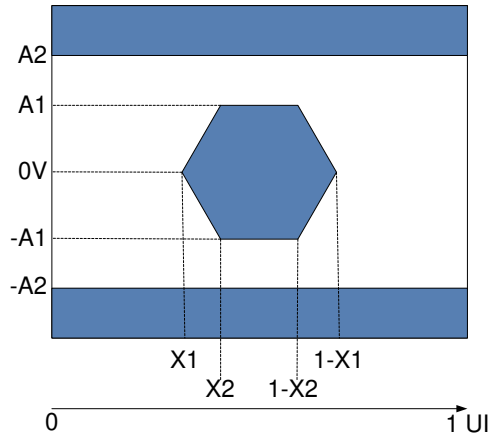

Figure 5-11. HSSI Eye Characteristics
(1) All power supply connections are required to operate the DMD: V_{DD}, V_{DDA}, V_{OFFSET}, V_{BIAS}, and V_{RESET}. All V_{SS} connections are required to operate the DMD.
(2) All voltage values are with respect to the ground pins (V_{SS}).
(3) To prevent excess current, the supply voltage delta |V_{DDA} – V_{DD}| must be less than the specified limit.
(4) To prevent excess current, the supply voltage delta |V_{BIAS} – V_{OFFSET}| must be less than the specified limit.
(5) Supply power dissipation based on three global resets in 200μs.
(6) LVC MOS input specifications are for pin DMD_DEN_ARSTZ.
(7) LVC MOS output specification is for pins LS_RDATA_A and LS_RDATA_B.
(8) Refer to Figure 5-11, Receiver Eye Mask (1e-12 BER).
(9) Defined in the *Recommended Operating Conditions*.